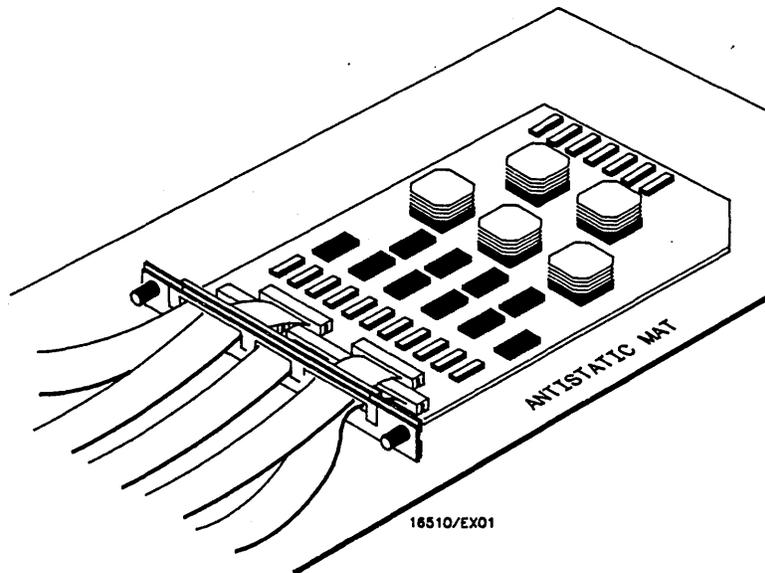

Figure 6-11. Cable Position
- g. To reinstall module, lay cable flat and pointing out to the rear of card. See figure 6-11.